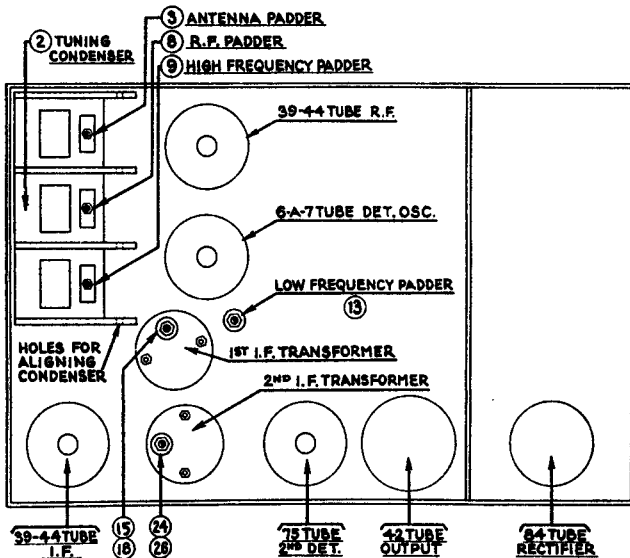

Fig. 43. Model 10 — I.F. 260 K.C.
Set up the signal generator and adjust it to exactly 260 K. C. Connect signal generator lead to the grid cap of the 6A7 tube. (See Fig. 43). The output meter must be connected by means of an adapter to the speaker prong of the speaker plug and to the chassis.
The condensers 24 and 29 are adjusted first (Fig. 43). Turn the adjusting screws all the way in. A meter screw driver can be used for this. Then, with general attenuator set so there
H. F. There are four holes in line, one in each of the sections of the tuning condenser housing. (See Fig 43) Place a nail of the size that fits snugly through the holes and then turn the condenser plates out of mesh until they strike against the nail.